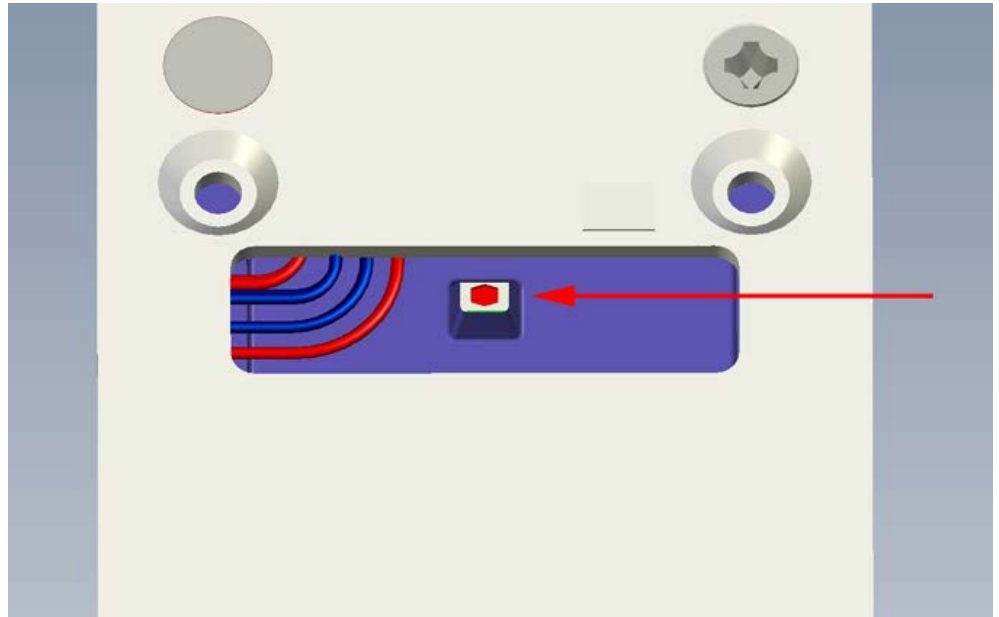

Fig. 2 Reset button on the back
4. Ensure that the handle spindle does not project more than 20 mm on the outside of the door. If the spindle is too long, push it through into the handle on the inside. If this cannot be done, cut the spindle to the right length. See figure 2.